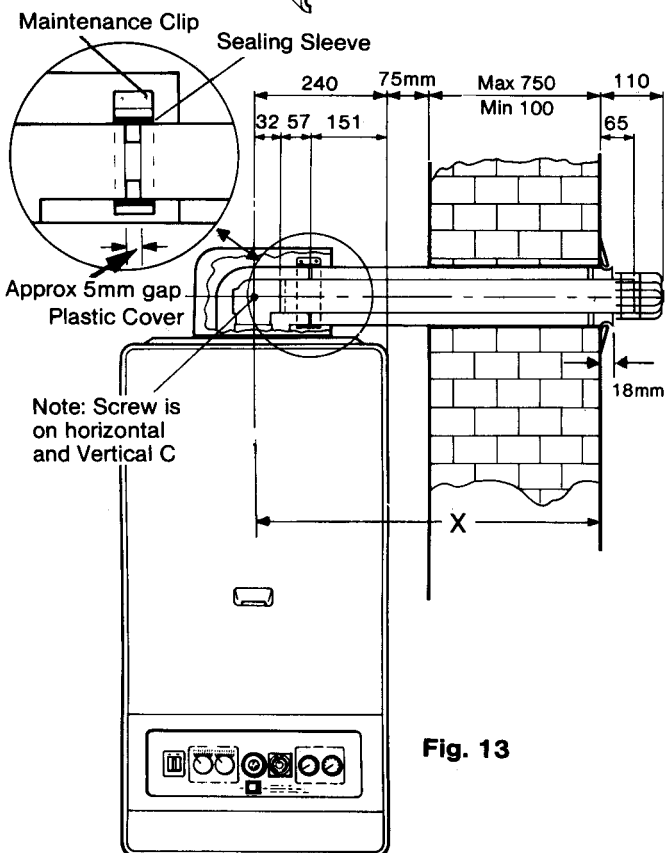
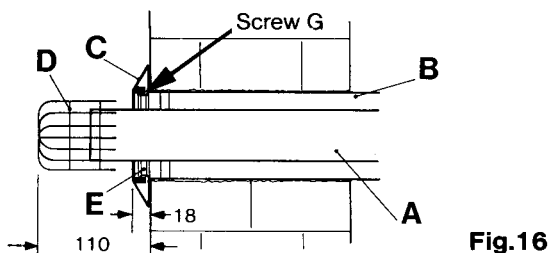

Fig. 13
Fig.16
5.5.4 Measure carefully from the actual face of the outside wall to the centre of the flue bend. (Dimension X on Figs 13 & 14)
The outer air tube should be shortened by an extra 5mm to allow a gap for easy working (see inset on fig.13). The two tubes may be separated by removing screw G (fig.16)
- 5.5.9** Ensure inner and outer terminal tubes are firmly fitted together with the screw G (fig.16) properly secured.
- 5.5.10** Push the terminal tubes through the wall until the face of the outer tube protrudes 18mm from the face of the wall (fig.16). The terminal grill (D) will then protrude 110mm from the wall face.
- 5.5.13** Slide the maintenance clip and sealing sleeve over the flue pipe (see fig.13). Lift the inner flue and by pressing and turning slide the inner flue tube over the inner elbow. Silicone lubricant may be used.
- Check also that the outer end of the flue projects as indicated in fig.16.
- 5.5.15** Referring to fig.13 slide the sealing sleeve and maintenance clip into position and secure the clip screws.
- 5.5.17** Seal the peripheral gap around the outer tube with cement or mastic and slip the cosmetic flexible plastic collar (fig.16 item C) into groove on the pipe. This operation can only be carried out with external access.